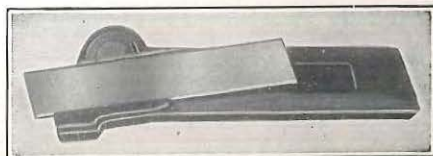
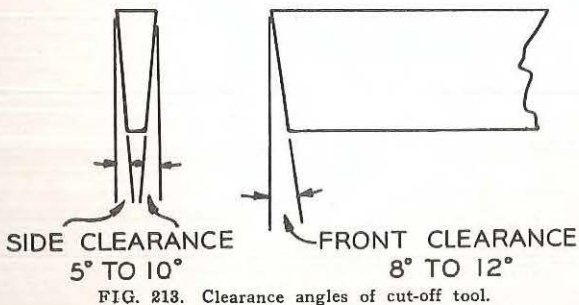

FIG. 211. Cut-off Tool.
FIG. 213. Clearance angles of cut-off tool.
Figures 211 and 212 show the tool recommended for most operations. This tool is
supplied ready - ground with correct top rake, front and side clearance, so that the front face cuts freely without binding (Fig. 213). The cutter blades are replaceable, and the holder is offset to permit cut-off operations close to the headstock spindle.
6. To resharpen the cut-off tool shown in Figure 211, grind the front edge only, allowing front clearance (see Fig. 213).